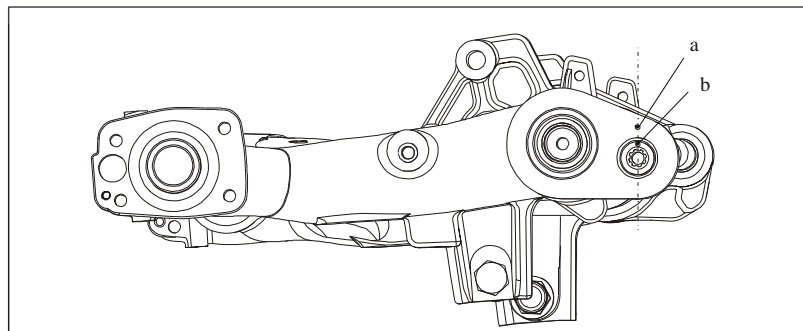

Figure 4-53 Mark on Torsion Bar Spring and Rocker arm
- 2) Before removing torsion bar spring, mark the position of torsion bar spring on rocker arm by drawing lines or print point a, b (See Figure 4-53).
where torsion bar can be inserted into the hole freely, this moment, in Figure 4-53, mark a moves 2 gears in relation to mark b.